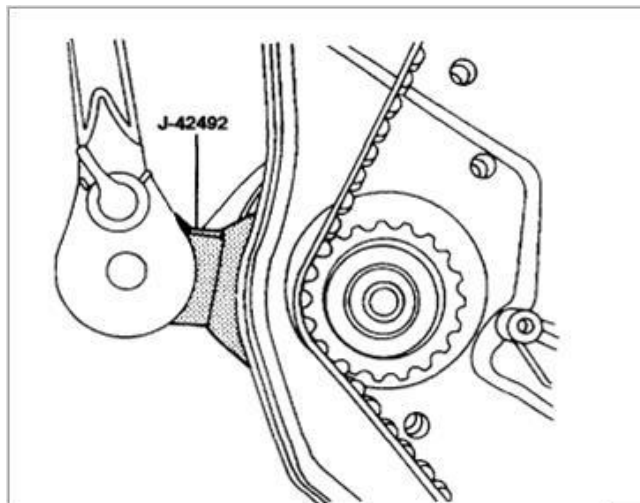

Fig. 5
4. Rotate water pump anticlockwise, using special adjustment tool (Gates: GAT V501A or OE: J-42492 or KM-421-A), to release tension on the belt (Fig. 5).